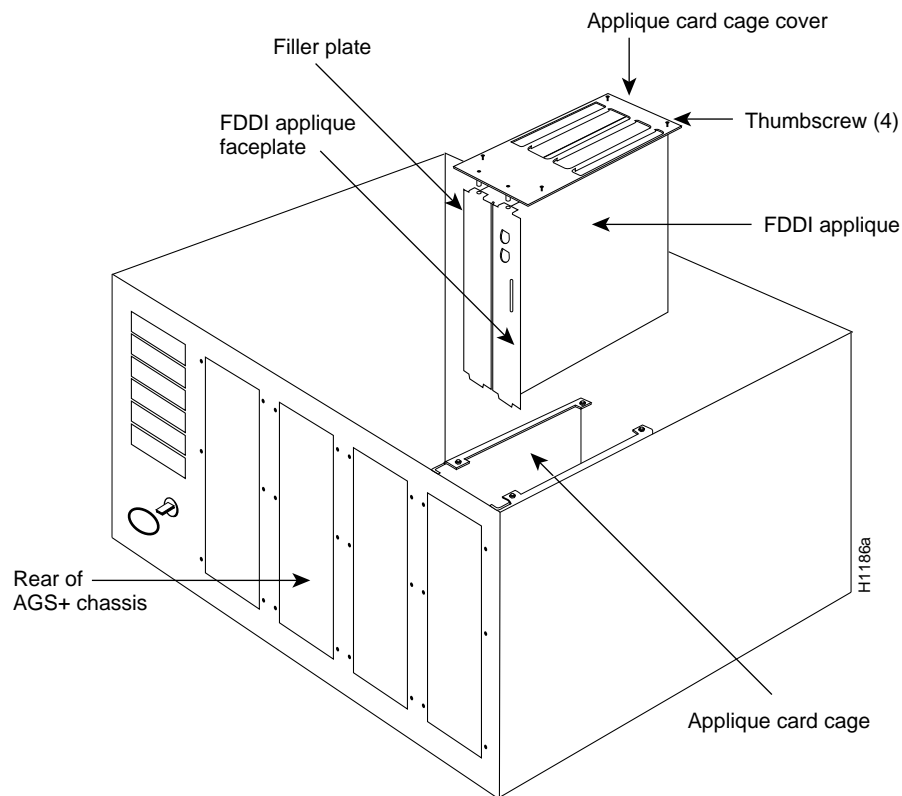

Figure 11 Installing the FDDI Applique and Card Cage in the AGS+ Chassis
The applique card cage can only be installed in one of the two large plate areas on the right side of the chassis rear panel. (For the remainder of this procedure, orient the card cage and chassis as shown in Figure 11.)
- Step 1** Remove a blank connector plate from one of the two right side connector areas by removing the six screws that secure it. (See Figure 11.)
- Step 2** Place the applique card cage inside the rear of the chassis, in the empty large plate area. (See Figure 11.) Align the screw holes in the chassis back panel with those in the applique card cage.